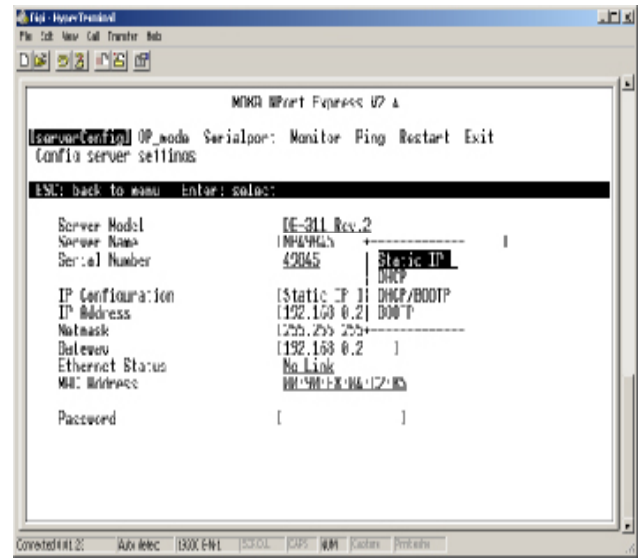

Figure 2-10
21. This opens a list box. **Figure 2-10**